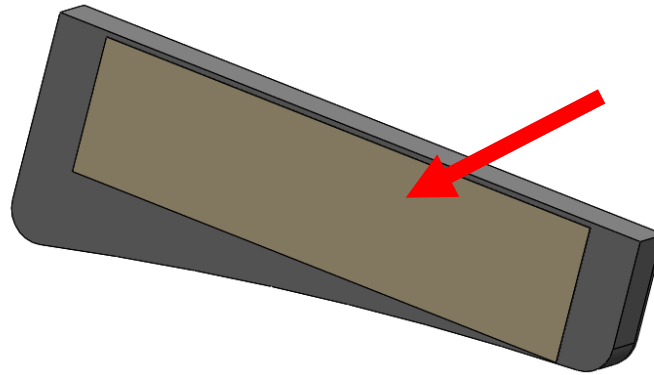

Figure 4
3. Remove and discard the backing of the double-sided tape on the rear of the Ejection Port Spacer Sub Assembly, shown in Figure 4.